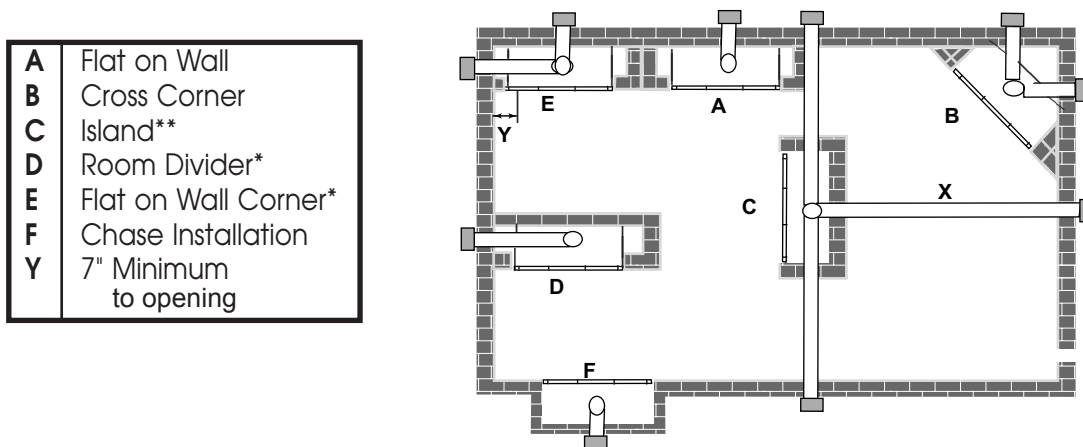

Figure 4 - Locating Gas Fireplace
- This fireplace may be installed along a wall, across a corner, or use an exterior chase. See *Figure 4* for suggested locations.